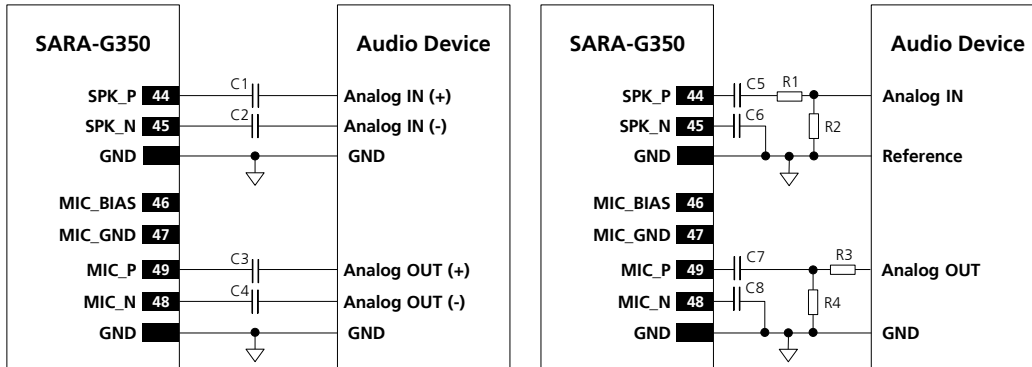

Figure 59: Application circuits to connect the module to audio devices with proper differential or single-ended input/output
Figure 59 and Table 35 describe the application circuits, following the suggested circuit design.
- The **SPK_P / SPK_N** balanced output of the module must be connected to the differential input of the external audio device by means of series capacitors for DC blocking (e.g. 10 μ F Murata GRM188R60J106M) to decouple the bias present at the module output, as described in the left side of Figure 59.
- A proper differential to single ended circuit must be inserted from the **SPK_P / SPK_N** balanced output of the module to the single ended input of the external audio device, as described in the right side of Figure 59: 10 μ F series capacitors (e.g. Murata GRM188R60J106M) are provided to decouple the bias present at the module output, and a voltage divider is provided to properly adapt the signal level from the module output to the external audio device input
- The **MIC_P / MIC_N** balanced input of the module must be connected to the differential output of the external audio device by means of series capacitors for DC blocking (e.g. 10 μ F Murata GRM188R60J106M) to decouple the bias present at the module input, as described in the left side of Figure 59.
- A proper single ended to differential circuit has to be inserted from the single ended output of the external audio device to the **MIC_P / MIC_N** balanced input of the module, as described in the right side of Figure 59: 10 μ F series capacitors (e.g. Murata GRM188R60J106M) are provided to decouple the bias present at the module input, and a voltage divider is provided to properly adapt the signal level from the external audio device output to the module input
- The signal levels can be adapted by setting gain using AT commands (refer to the u-blox AT Commands Manual [\[2\]\[2\]](#), +USGC, +UMGC), but additional circuitry must be inserted if the **SPK_P / SPK_N** output level of the module is too high for the input of the audio device or if the output level of the audio device is too high for **MIC_P / MIC_N**, as the voltage dividers present in the circuits described in the right side of Figure 59 to properly adapt the signal level